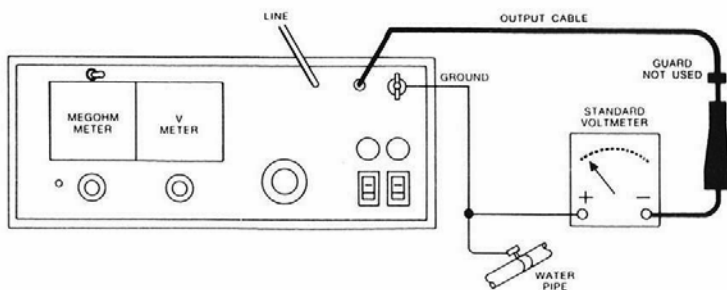

Figure 16: Connections for Calibration of Voltmeter.
1. Connect the test set as shown in Figure 16.